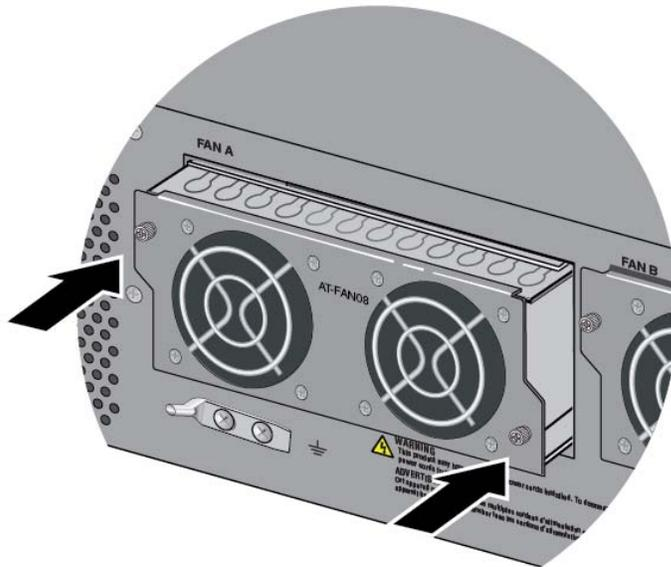

Figure 130. Seating the FAN08 Module on the Connector in the Chassis
2. When you feel the module make contact with the connector inside the chassis, gently press on both sides to seat the module on the connector. Refer to Figure 130.